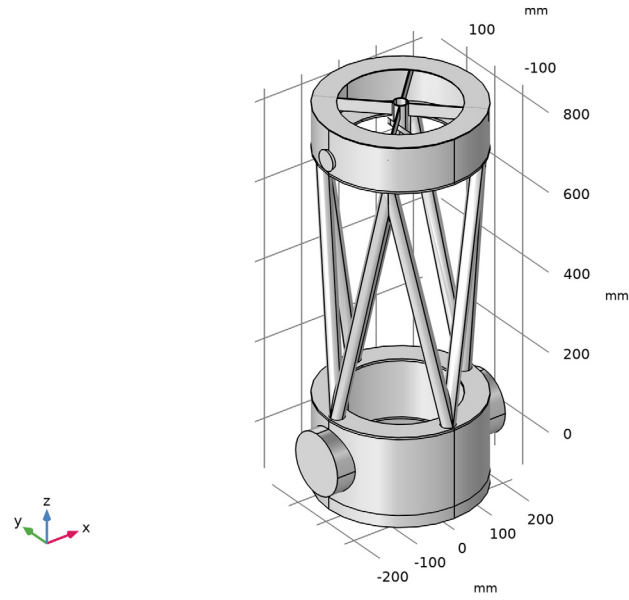
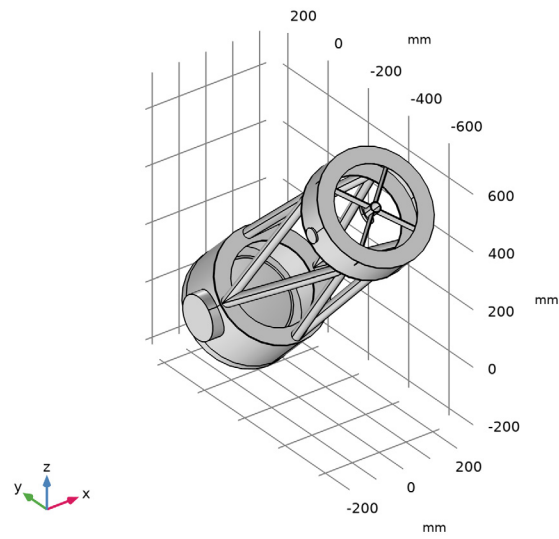

Figure 3: The Newtonian Telescope Structural Analysis geometry sequence.
Figure 4: The geometry sequence at an inclination of 45.0°.
After insertion, the geometry will look like Figure 3. After adjusting the parameter (theta) defining the telescope inclination to 45.0° , the geometry will look like Figure 4.
- 8 Click the  **Orthographic Projection** button in the **Graphics** toolbar. Compare the resulting geometry to Figure 3. In the following steps, change the telescope inclination to 45 degrees.
In the **Home** toolbar, click  **Build All**. Compare the resulting geometry to Figure 4.